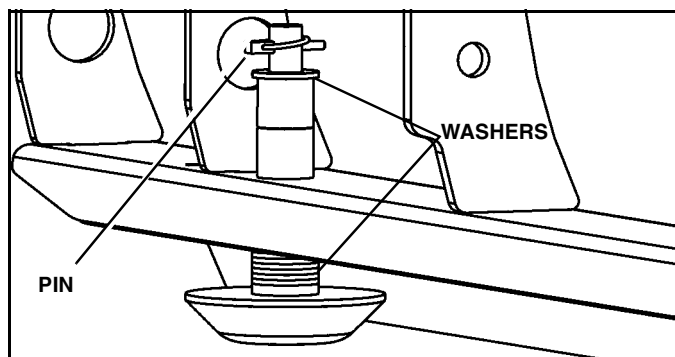

Figure 1-6
- Adjust shoe assemblies by removing shoe mounting lynch pin and adding or subtracting washers on the top or bottom of the shoe mounting location. (See Figure 1-6).